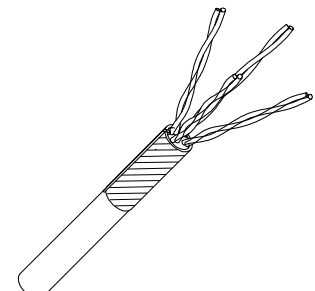

Fig.3
- 3) Pull the foil shield back over the jacket. Ensure the cable foil's conductive surface is facing out.Wrap the drain wire around the foil shield. (Fig. 3)